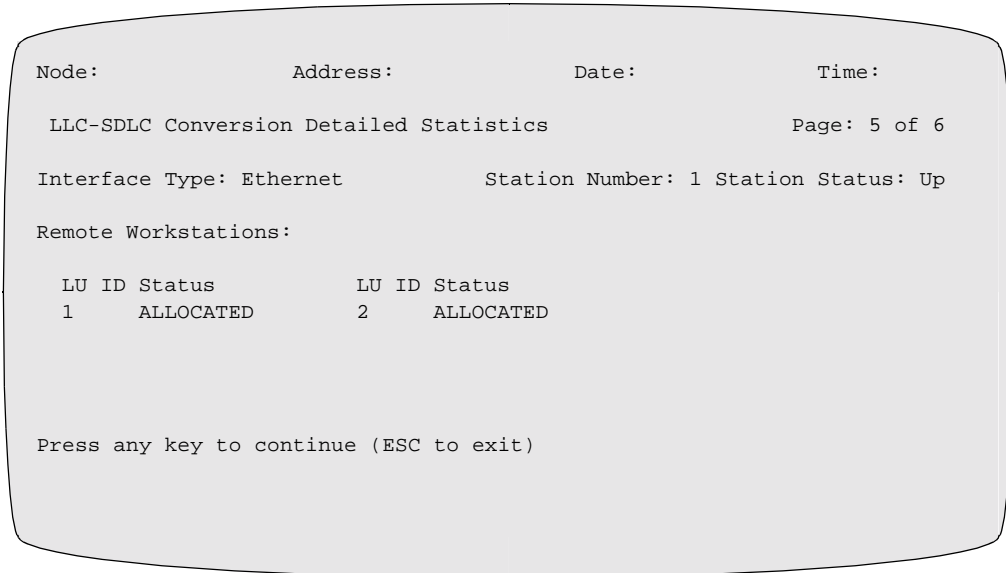

Figure 3-2. LLC-to-SDLC Detailed Station Statistics Screen (Page 5)
Figure 3-2 shows an example of the Remote Workstations (LU) information screen. This page displays the LU IDs and statuses for each remote workstation configured for the selected station (on the Vanguard connected to the controller). This information is useful in determining if the remote workstation devices have established a connection with the AS/400 (the ALLOCATED state).